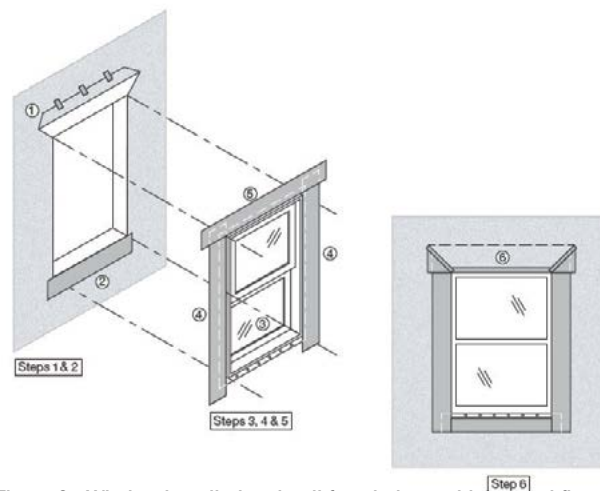

Figure 2: Window installation detail for windows with integral flanges and flashing installed after WRB
**1. PREPARATION OF INSTALLED WRB** - If the WRB covers all or part of the rough opening, cut the WRB even with the edge of the rough opening and discard the portion of the WRB that was removed from the rough opening (as shown in figure 2). At the head of window opening, cut the WRB at a 45° angle at each corner according to the diagram shown above. Carefully lift and tape up the corners to place WRB out of the way for remaining application steps.